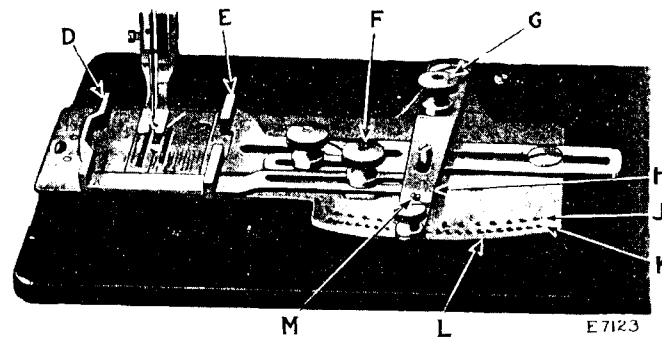

Fig. 10. Adjustments on the Machine
(See Fig. 10)
Adjust the guide (D) according to the width of belt to be sewn, by loosening the thumb nut (F, Fig. 10) and moving the guide (D) the desired distance from the fixed side of the guide (E), after which securely tighten the thumb nut (F).